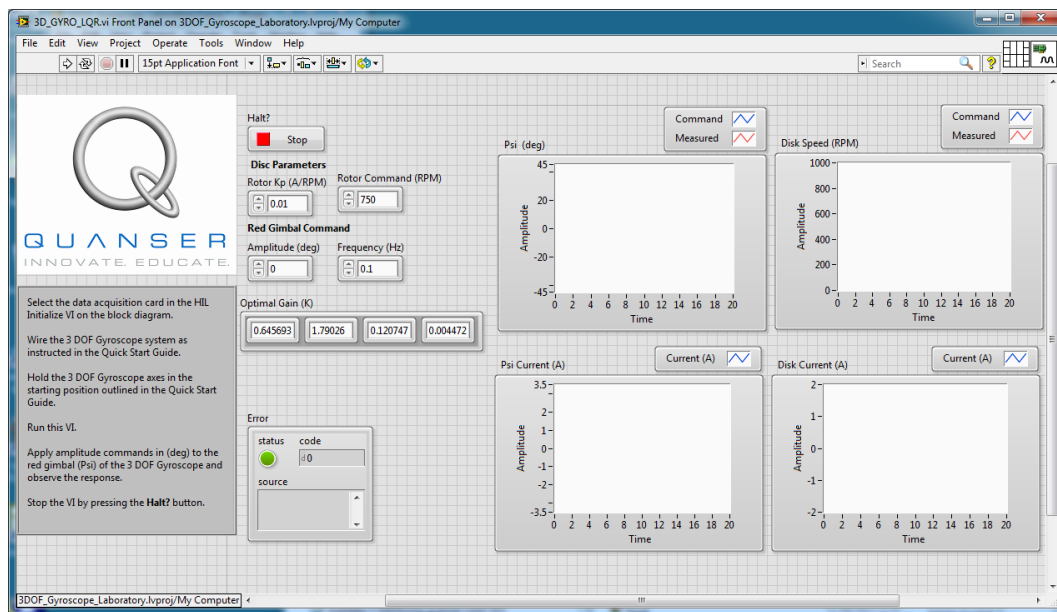

Figure 3.3: VI used to run controller on the 3D GYRO.
The *3D_GYRO_LQR* VI shown in Figure 3.3 is used to perform the red gimbal position control on the 3D GYRO. The VI contains drivers that interface with the DC motor and sensors of the 3D GYRO system.
2. Open the *3D_GYRO_LQR.vi*, shown in Figure 3.3.